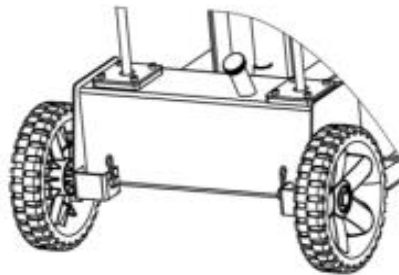
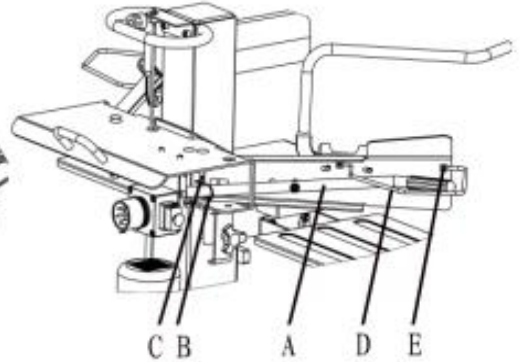

Fig. 3
Fig. 4
**Mounting the control arms, Fig.3**
- . Insert the control arm (A) in the rocker switch (B), and screw it in place with the hexagon bolt(C), the washer and the safety nut. Tighten the lock nut so the control arm can still be moved.
- . Mount the hoop guards (D) to both control arms, using 2 crosshead screws (E) in each case.
**Mount the working table, Fig.4**